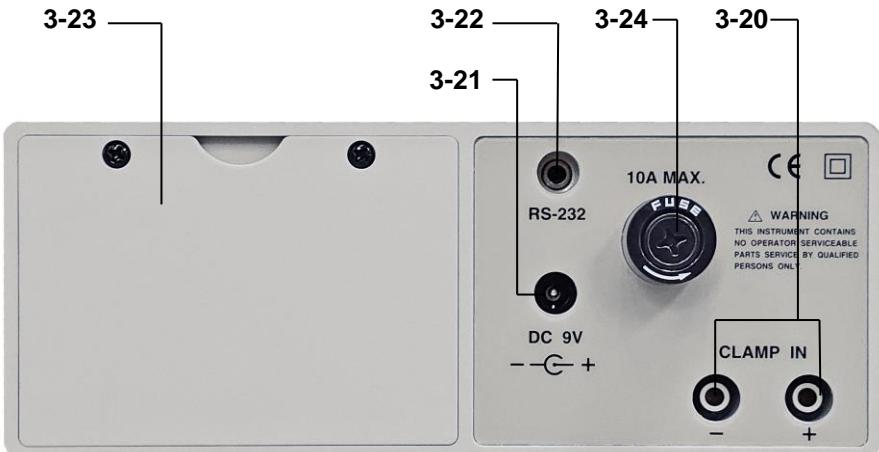

Fig.1
1. Push the "Power Switch" (3-2, Fig. 1) to "ON" position
2. Select the "AC/V/A/Watt-Switch" (3-3, Fig. 1)
3. Select the "Current In"-Switch (3-6, Fig. 1) to the "DIRECT"-position
4. Do not make any wire connection to the input terminals. If the watt display is not zero, push the "Whr-Zero Button" (3-8, Fig. 1) once, then watt display will show "0".
The "LCD Display" (3-1, Fig. 1) will show the Watt, Voltage, Current, PF (Power Factor) at the same time.
8. During the Watt measurement, push the "cos ϕ /PF/Hz Button" (3-9, Fig. 1) once, will show Line Frequency value instead of the PF value.
All the measuring procedures are same as the above "7.1-AC Watt/V/A/PF/Hz" measurement, except you should push the "Watt/VA/Whr Button" (3-7, Fig. 1) once, then the display will show the VA, voltage, current, Hz at the same time.
All the measuring procedures are same as the above "7.1-AC Watt/V/A/PF/Hz" measurement, except you should push the "Watt/VA/Whr Button" (3-7, Fig. 1) twice, then the display will show the Whr value along with the elapsed time.
- * The display of Whr measurement will stop (hold) when pushing the "Data Hold Button" (3-11, Fig. 1) once. Push the "Data Hold Button" once again for continuing the Whr function.
- * Press "Whr Zero" button (3 – 8, Fig.1) once will "reset (zero)" the Whr measuring value and make the new measurement again.
1. Push the "Power Switch" (3-2, Fig. 1) to "ON"-position.
2. Select the "AC V/A/Watt Switch" (3-3, Fig. 1).
3. Select the "Current In Select Switch" (3-6, Fig. 1) to the "DIRECT"-position.
- a) Connect red test lead to "V/Ohm Terminal" (3-17, Fig. 1) and black test lead to "COM Terminal" (3-18, Fig. 1)
- a) Connect red test lead to "Current (10 A) Terminal" (3-19, Fig 1) and black test lead to "COM Terminal" (3-18, Fig. 1)
2. Select the "DC V/A Switch" (3-4, Fig. 1)
- a) Connect red test lead to "V/OHM Terminal" (3-17, Fig. 1) and black test lead to "COM Terminal" (3-18, Fig. 1)